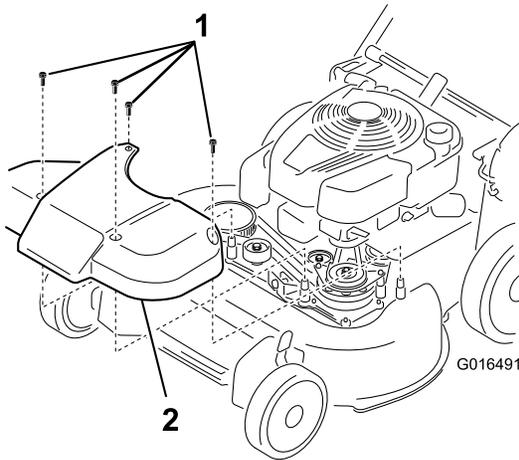

Figure 36
1. Remove the blade-drive system cover (Figure 36).